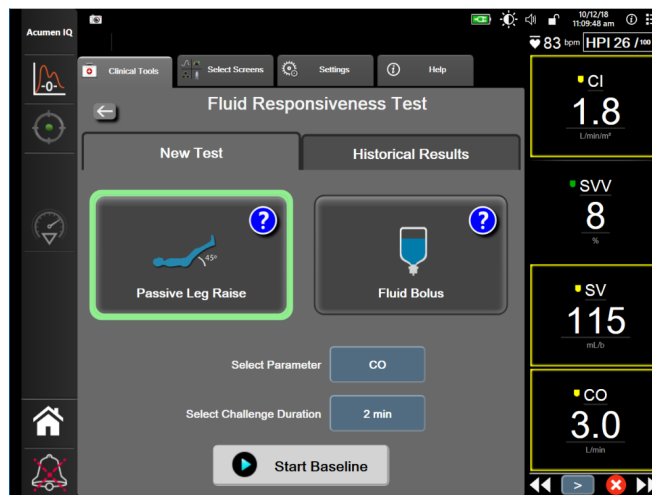

Figure 13-11 Fluid Responsiveness Test – New Test Screen
- 3 On the **New Test** tab (see Figure 13-11), touch the desired test type: **Passive Leg Raise** or **Fluid Bolus**.